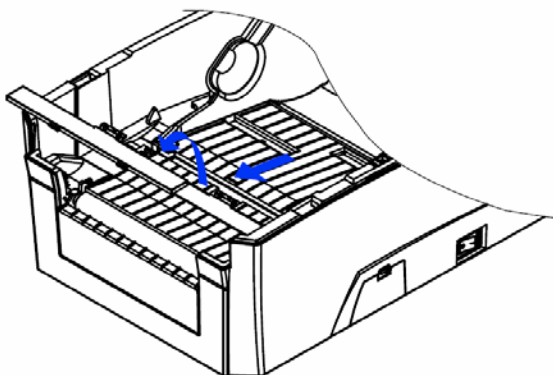

Figure 3.1.2
- 2) Push the spanner in the direction indicated by the arrow on the sensor cover board, and then turn to take off the sensor cover board (see figure 3.1.2);